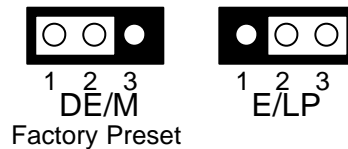

Figure 4-4 JP4: DE/E Signal from M or LP
2. The Display Enable (DE) control signal of TFT display on pin-41 is factory pre-set by the BIOS. Please stay the jumper of JP4 on DE/M position as Figure 4-4.